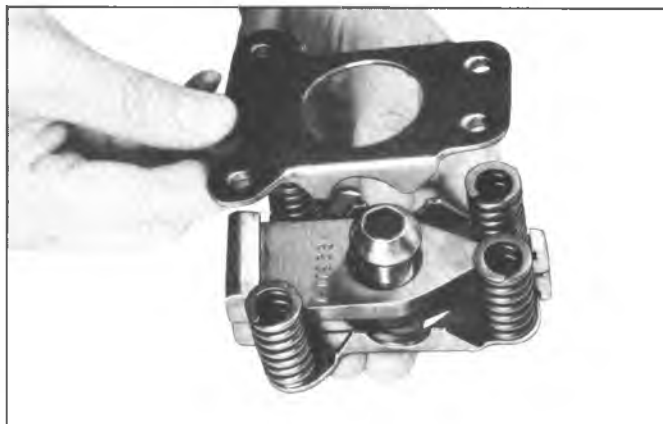

Fig. 13D—Installing Spring Pack Compression Tool (Corvette)
17. **On Corvette** install Tool J-22311 to compress clutch pack, secure pack with 1/4" bolts as shown in Figure 13D. Partially install pack then remove bolts and complete pack installation. Remove tool.